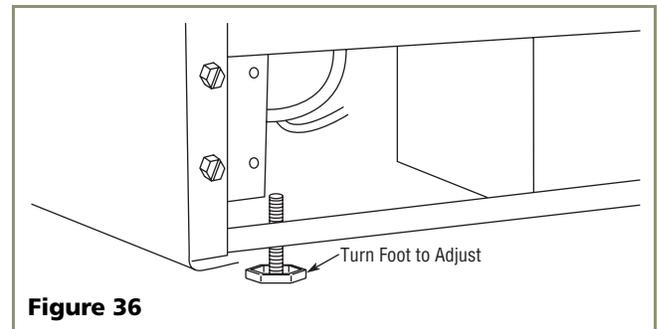

Figure 36
2. If the ice maker is not level, adjust the feet on the corners of the unit as necessary (see **Figure 36**).